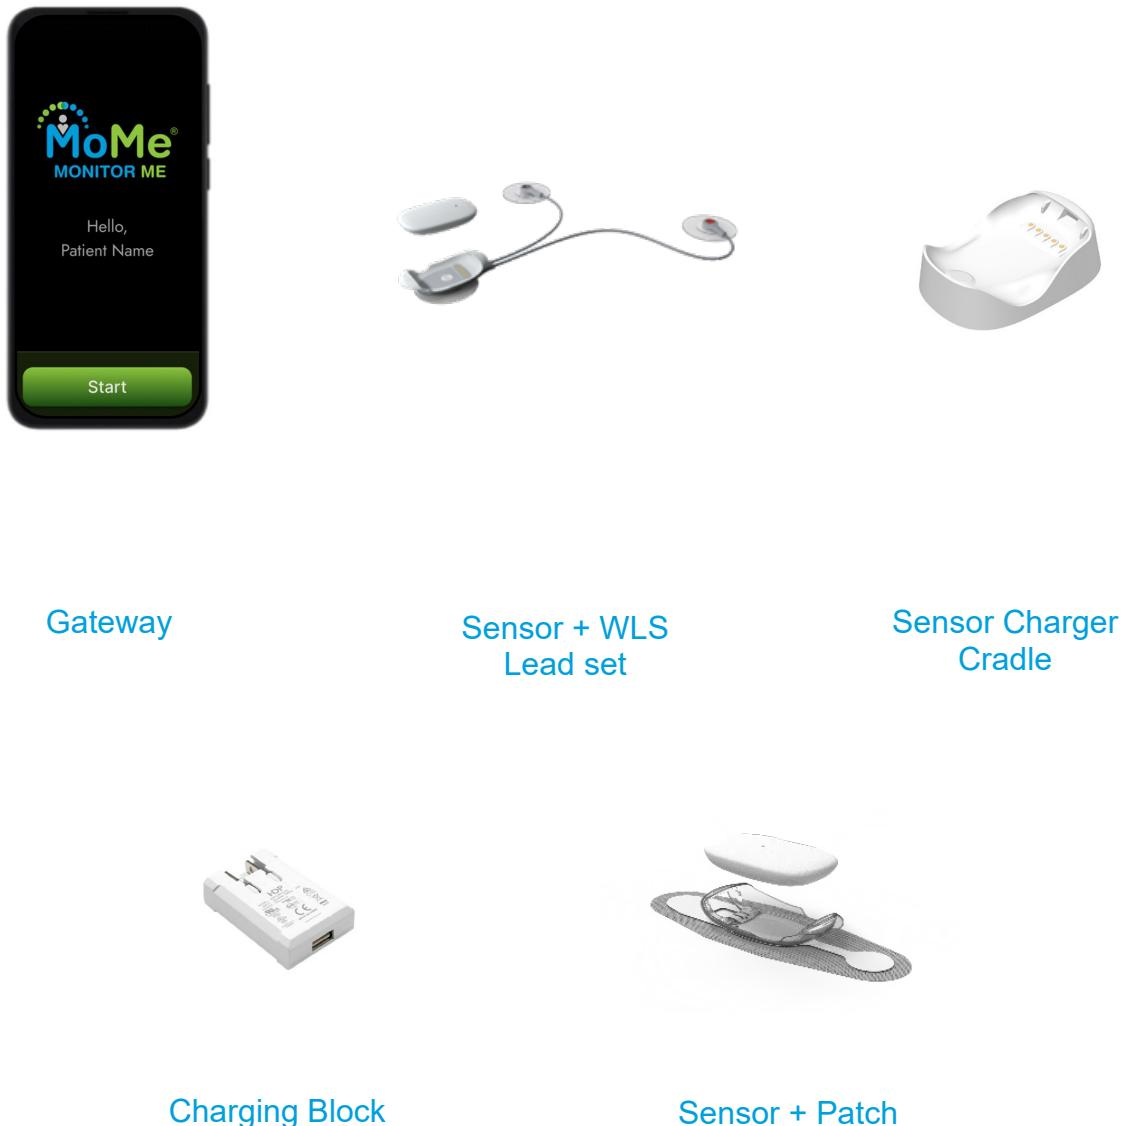

Figure 2 MoMe ARC® Kit All Possible Configurations
- c) Apply the remaining two (2) gel electrode to the patient’s chest as indicated (Figure 2).